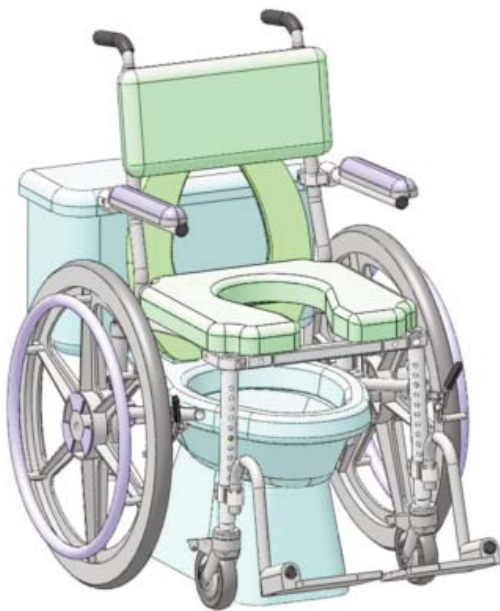

Figure 16
**B Commode Chair:** Position the multiCHAIR over the toilet, so that the center of the commode opening is directly above the center of the toilet bowl. Adjust the height of the multiCHAIR accordingly by setting the position of the brass buttons on the two inner legs to the various adjustment holes on the outer legs (Note: For height adjustment of the big wheels, refer to Step F on Page 4). Then lock the caster wheels in place. Note: Make height adjustments to the multiCHAIR before the user has transferred onto it (Refer to Figure 16).